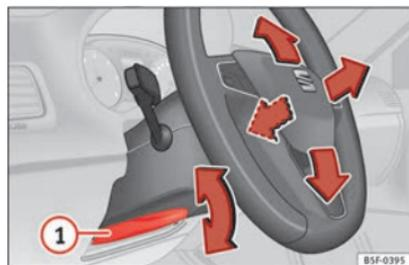

Fig. 15 Lever in the lower left side of the steering column.
• Adjusting the position of the steering wheel: Pull the » **Fig. 15** ① lever down, move the steering wheel to the desired position and lift the lever back up until it locks.